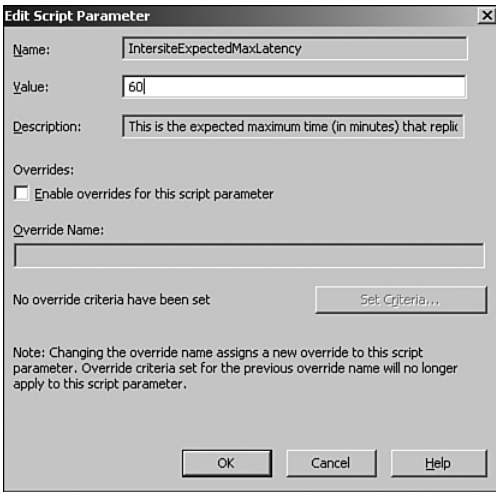

FIGURE 16.4 The Edit Script Parameter window.
3. Double-click the AD Replication Monitoring script, and under Script Parameters, double-click IntersiteExpectedMaxLatency. See Figure 16.4 for an illustration. Enter the appropriate value and confirm all dialogs.